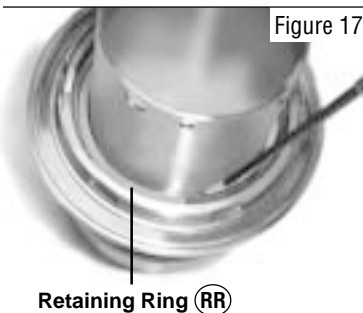

Figure 17
4.14 Insert the retaining ring (RR) into the groove in the sleeve assembly while pressing down on the rotor carrier. Make sure that the retaining ring snaps completely into the groove in the sleeve assembly. (Figure 17)